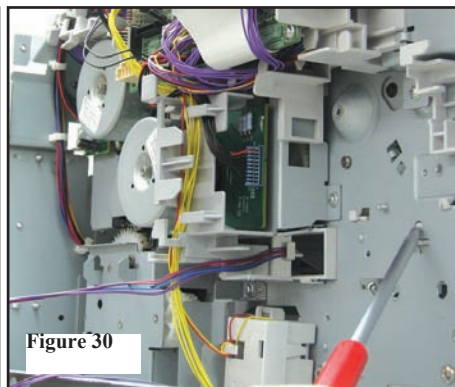

Figure 30
29. Remove power supply guide (see inset) by pushing in lock button. (Figure 30)